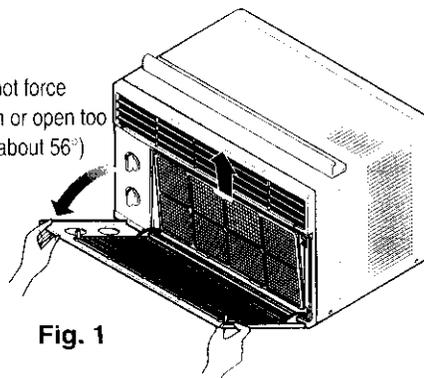

Fig. 1
1. Remove the front cover by gripping the top outside edges and pulling toward you (see Figure 1). You will notice that the grille will only open to about 56°. Do not force the grille open too far.